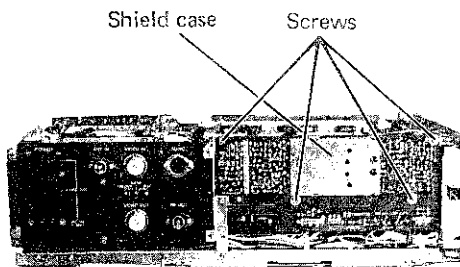

Fig. 4-9
1. Remove the four screws on the printed circuit board as shown in Fig. 4-9.
3. Remove the shield case by using a soldering iron, and unsolder the two wires located inside of the shield case as shown in Fig. 4-9.